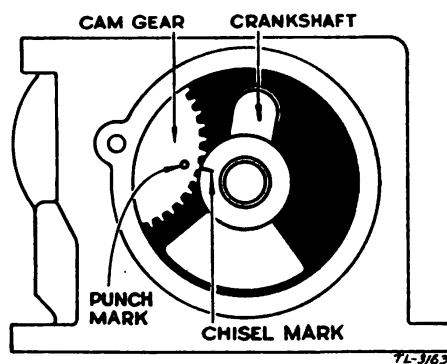

FIGURE 18.—Valve timing.
(5) *Timing.*—The timing of the valves is fixed by the meshing of the camshaft gear with the gear on the crankshaft. These gears are properly meshed when the punch mark on the camshaft gear is in line with the mark on the crankshaft collar. (See fig. 18.)